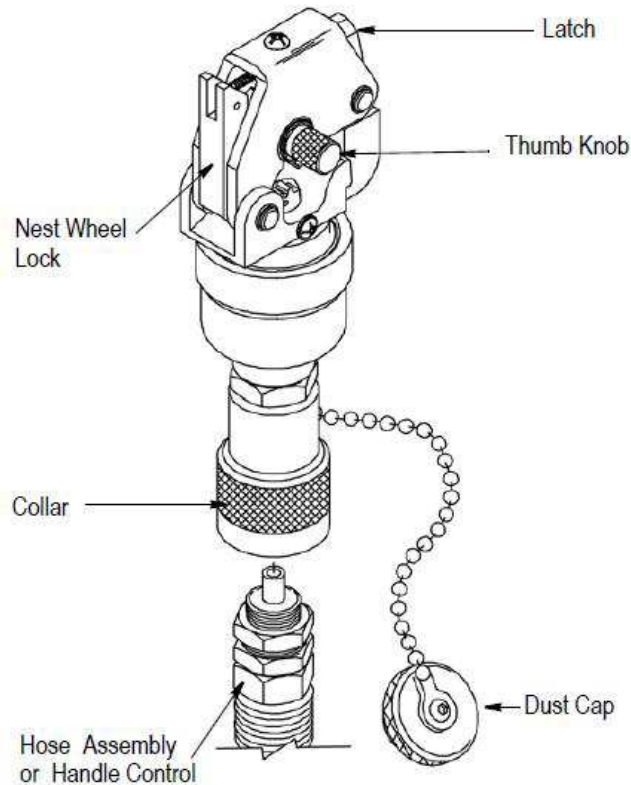

Figure 1
This instruction sheet covers application, inspection and maintenance procedures for Crimping Head PN 1673672-1 shown in Figure 1. The crimping head is used to crimp SOLISTRAND\* terminals and splices onto solid or stranded copper wire sizes 8 thru 2 AWG.
1. Thoroughly clean coupling area of handle control or hose assembly and crimping head (see Figure 1).